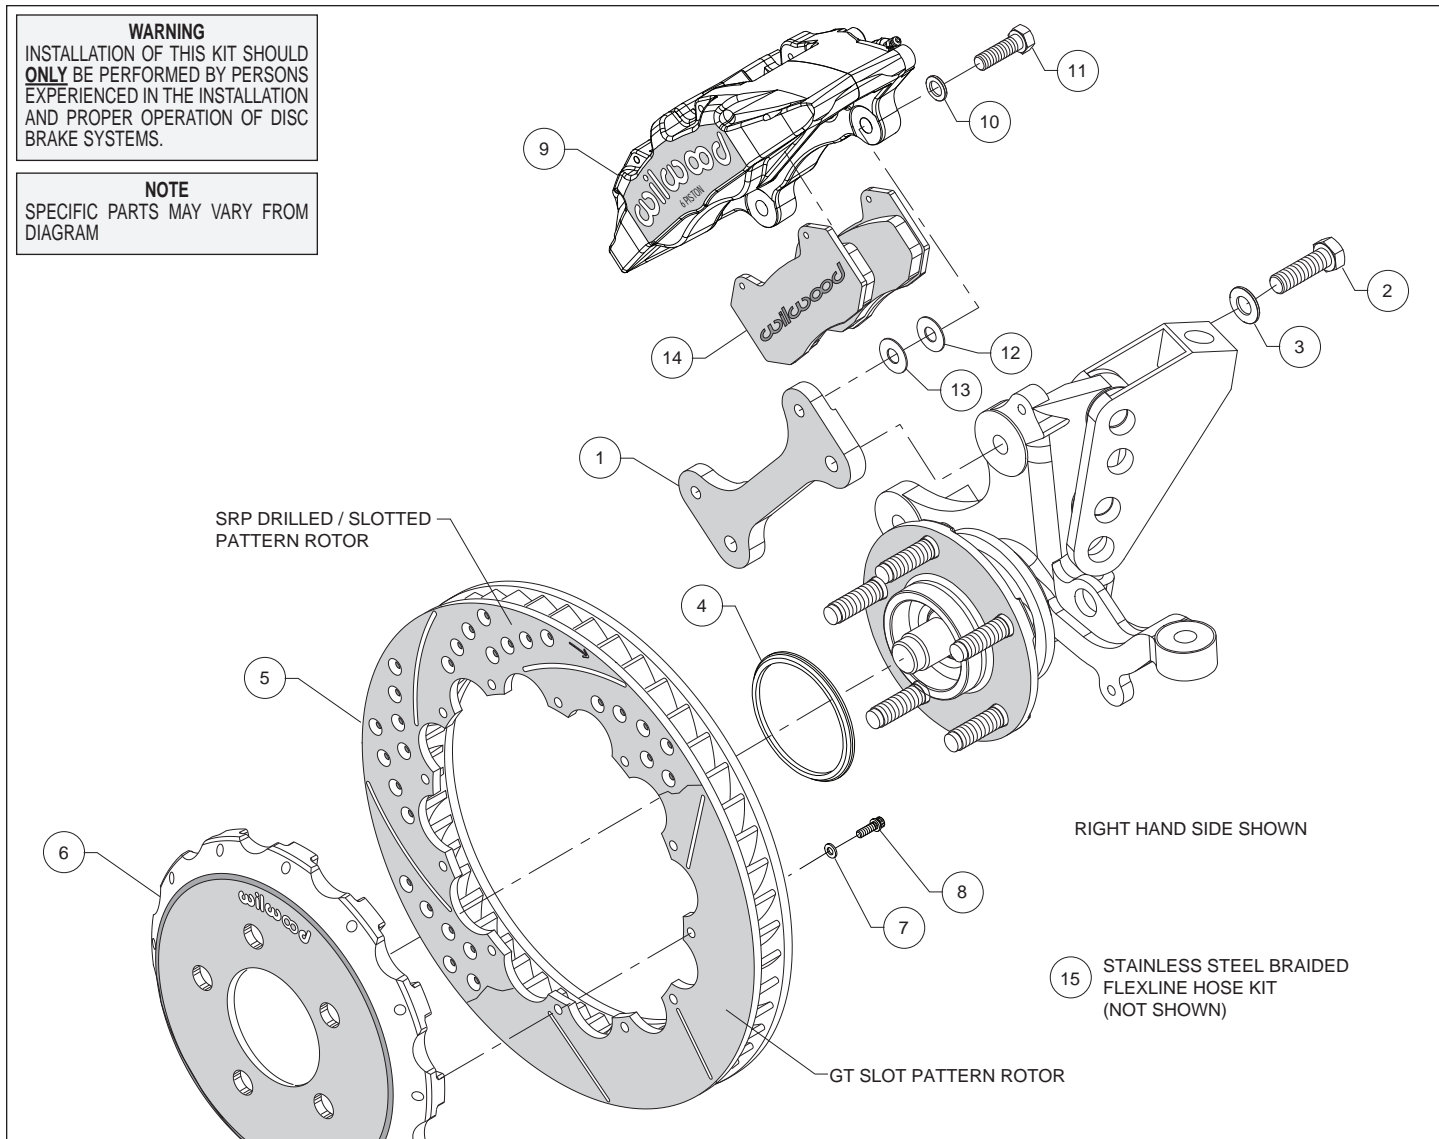
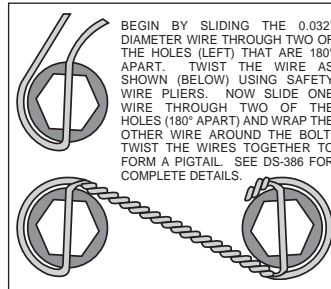

Figure 1. Typical Installation Configuration
Figure 3. Safety Wire Diagram
**Assembly Instructions** (numbers in parenthesis refer to the parts list and Figure 1 on the preceding pages):
- Orient the caliper mount bracket (1) as shown in Figure 1 and Photo 1, and install using bolts (2) and washers (3). Temporarily tighten the mounting bolts. **NOTE:** *The bracket must fit squarely against the mount bosses on the upright.* Inspect for interference from casting irregularities, machining ridges, burrs, etc. Remove bolts one at a time, apply red *Loctite*® 271 to the threads and torque to 60 ft-lb.
- Orient the rotor (5) and the hat (6) as shown in Figure 1 and Photo 2. Attach rotor to hat using bolts (8) and washers (7). Using an alternating sequence, apply red *Loctite*® 271 to the threads and torque bolts to 155 in-lb. For an added measure of security, the bolts may be safety wired using standard 0.032 inch diameter stainless steel safety wire as shown in Figure 3. Please refer to Wilwood's data sheet DS-386 (available at [www.wilwood.com/Pdf/DataSheets/ds386.pdf](http://www.wilwood.com/Pdf/DataSheets/ds386.pdf)) for complete safety wire installation instructions.
- **NOTE:** *This kit contains distinct right and left hand calipers that must be mounted in a specific direction, as described below.* Mount the caliper (9) onto the caliper mounting bracket (1) using bolts (11) and washers (10), as shown in Figure 1. Initially place one each .016" thick shim (12) and .035" thick shim (13) on each bolt between the caliper and the bracket, Figure 1 and Photo 5. Ensure that the caliper is mounted so the largest pistons are at the rotor exit end of the caliper, in relation to the direction of rotor rotation. Temporarily tighten the mounting bolts and view the rotor (5) through the top opening of the caliper. The rotor should be centered in the caliper, Photo 6. If not, adjust by adding or subtracting shims (12 and/or 13) between the bracket and the caliper. Always use the same amount of shims on each of the two mounting bolts. Once the caliper alignment is correct, remove the mounting bolts and caliper.
- Remove the two pad retaining pins from the caliper (9) by carefully popping out the pin retaining clips and sliding out the pins. Insert the brake pads (14) into the caliper from the bottom, Figure 1 and Photo 7, with the friction material facing the rotor. Secure the brake pads in place with the pad retaining pins and clips, Photo 8. Reinstall the caliper onto the caliper mounting bracket. Apply red *Loctite*® 271 to bolt threads (11), and torque to 35 ft-lb.